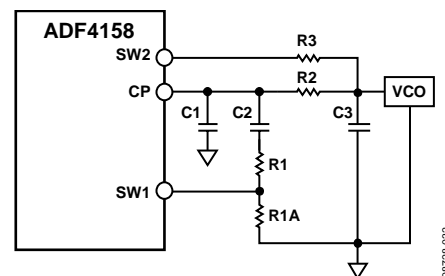

Figure 45. Fast-Lock Loop Filter Topology—Topology 1
- Divide the damping resistor (R1) into two values (R1 and R1A) that have a ratio of 1:3 (see Figure 45).